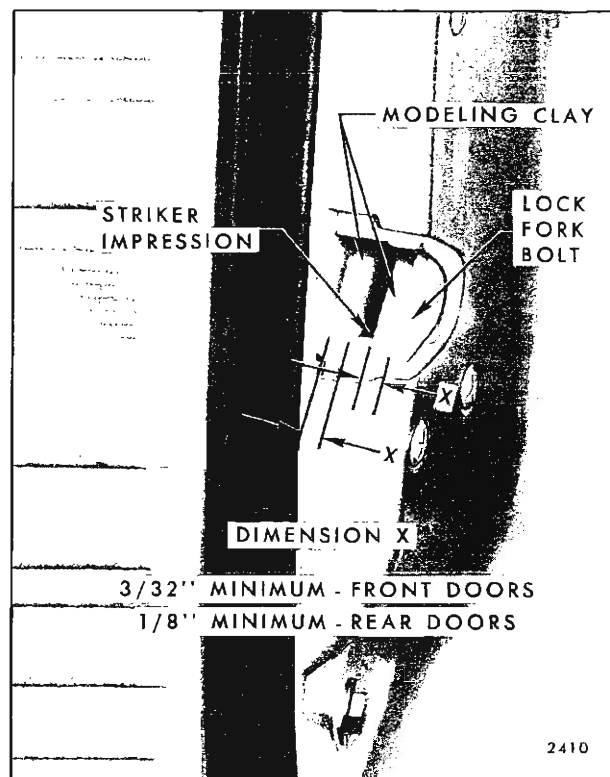

Fig. 6-25—Lock to Striker Engagement actuated is vacuum supplied to the balance of the system (Fig. 6-26).
- b. Apply modeling clay or body caulking compound to lock bolt opening as shown in Figure 6-25.
- c. Close door only as far as necessary for striker bolt to form an impression in clay or caulking compound as shown in Figure 6-25.
- d. Measure striker impressions as follows: Striker head should be centered fore and aft as shown, however, some tolerances are allowed. In any alignment, it is important that minimum dimensions, as outlined in Figure 6-25 be strictly maintained. The following spacers are available as service parts and can be used individually or in combination to achieve the desired alignment.